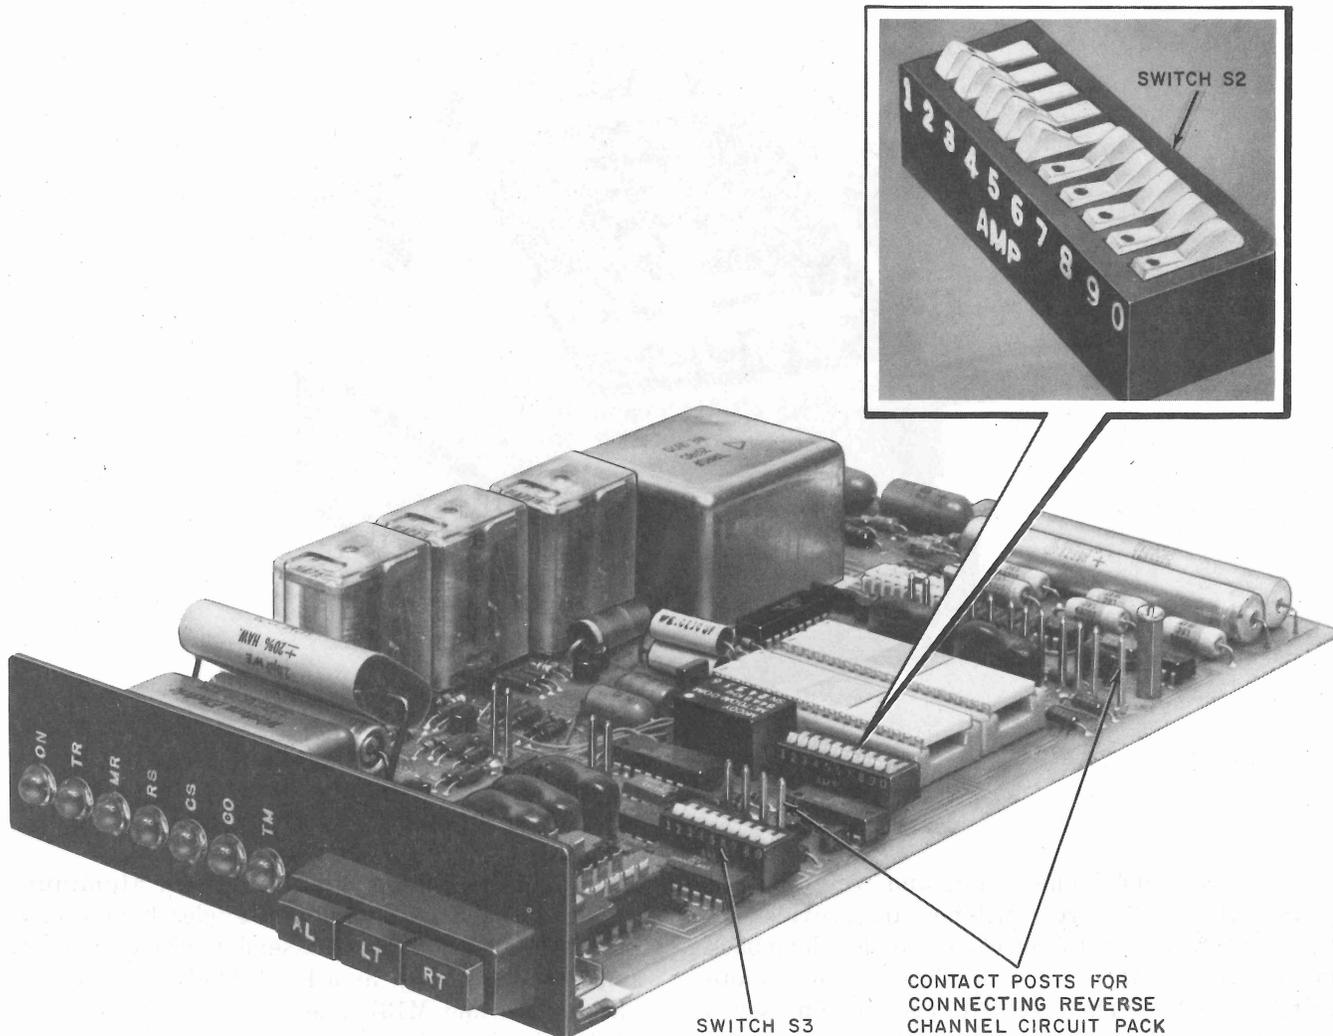

Fig. 2—Data Set 202S-L1 (L1A is Similar)
**DS 202S-L1A:** A printed circuit pack (CP) assembly, shown in Fig. 2, which may be installed in either a single set housing (47A1 data mounting) or a multiple set data mounting (coded 40A1).
inches wide, 10.4 inches long, and weighing 1.5 pounds (Fig. 2). Three switches are provided on the front faceplate to select the analog loop-back mode (AL), local self test mode (LT), or remote test mode (RT). The faceplate also contains seven indicators (light emitting diodes) to indicate the status of various interface leads and operating modes of the data set (Table A). All interconnections to the CP are made via a connector at the rear of the board.